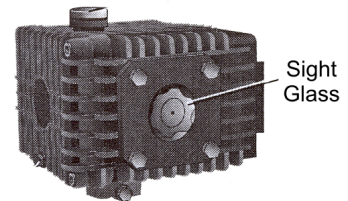

Fig. 1: Sight Glass
- c. Check the pump oil level. Use the sight glass on back of the pump (Fig. 1). The correct level is up to the center dot. Add DP-70 pump oil if necessary.